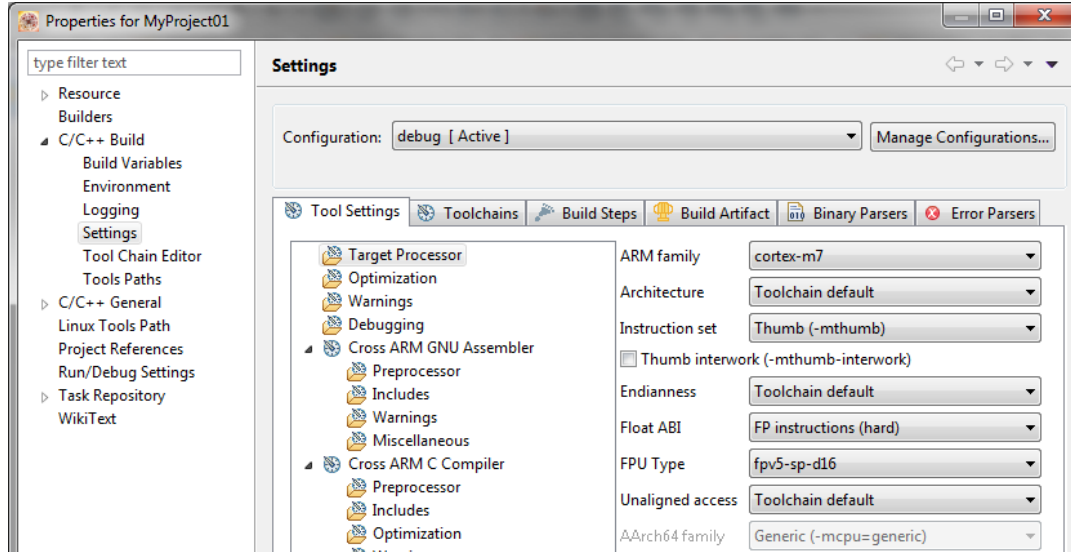

Figure 1-4. FPU setting
11. In the right-hand part, set the Float ABI as FP instructions (hard) and the FPU type as fpv5_sp_d16. See Figure 1-4.